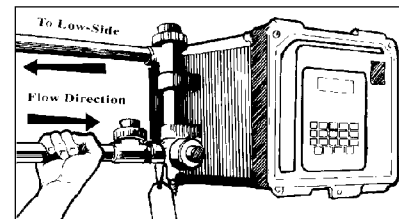

FIGURE 2
6. Direction of flow should be from the bottom to the top of the flow assembly (see Fig. 2).